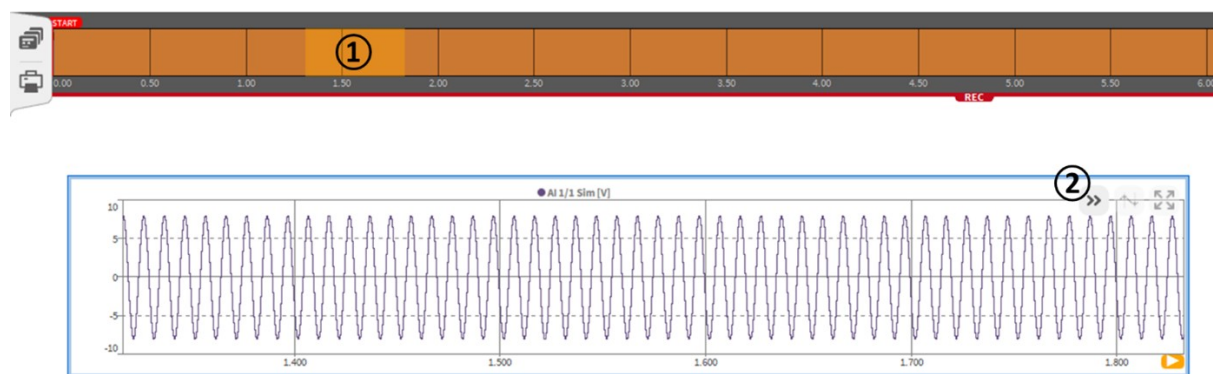

Fig. 8.26: Operational Features of DejaView™
While recording data, the user is free to use the Recorder to view data from the past, even during long duration recording. This feature is called DejaView™. For activating this function, the user must click with the left mouse button in the recorder or touch the recorder with his finger and drag or swipe to the right. From this point the user is also free to pinch or scroll zoom into the data. To quickly get back to looking at the current data the user can simply press the grey >> symbol (see ② in Fig. 8.26) and they will be snapped back into time with the current incoming data. This is one of the most **powerful** features of the OXYGEN software.
- Operational features of DejaView™ (see Fig. 8.26)
- ① Shows the part of the measurement file that is displayed in the recorder
- ② After pressing this button, the recorder will jump to the actual position of the measurement file and show the latest recorded data. A right click on this button makes the recorder show the recorded data from the recording start to the actual time position on the right end of the recorder